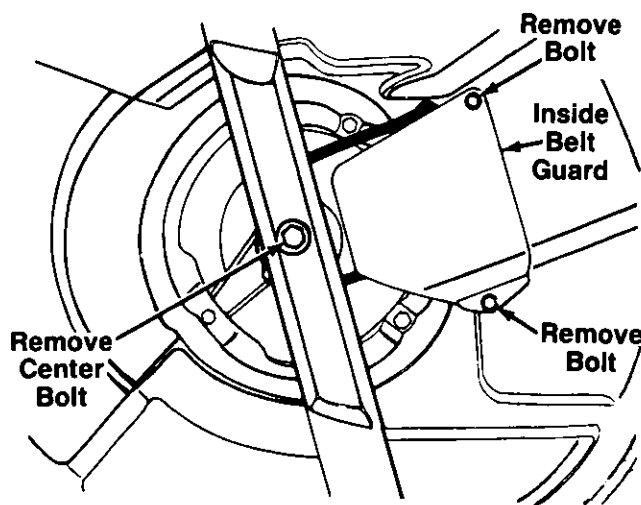

FIGURE 30.
6. Remove the center bolt which secures the blade to the crankshaft. See figure 30. Remove the blade, blade adapter and pulley half. Remove the belt.
7. Remove the inside belt guard by removing two self-tapping screws. A 3/8" wrench is required. See figure 30.